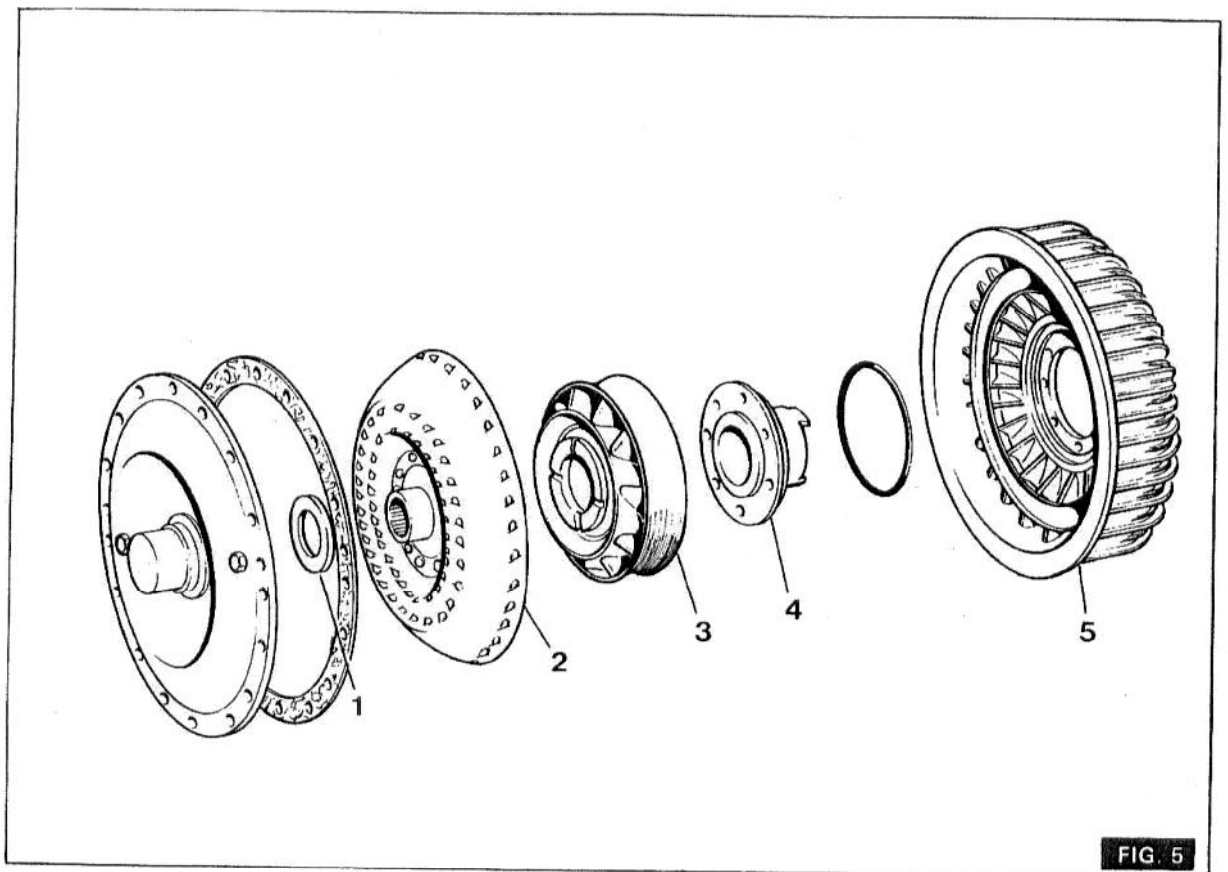

FIG. 5
4. (Fig. 5) Remove the turbine thrust washer (1) and the turbine assembly (2).
5. Withdraw the stator assembly (3).
7. Remove the eight bolts securing the hub (4) to the impeller (5). Lift the hub and gasket from the impeller.